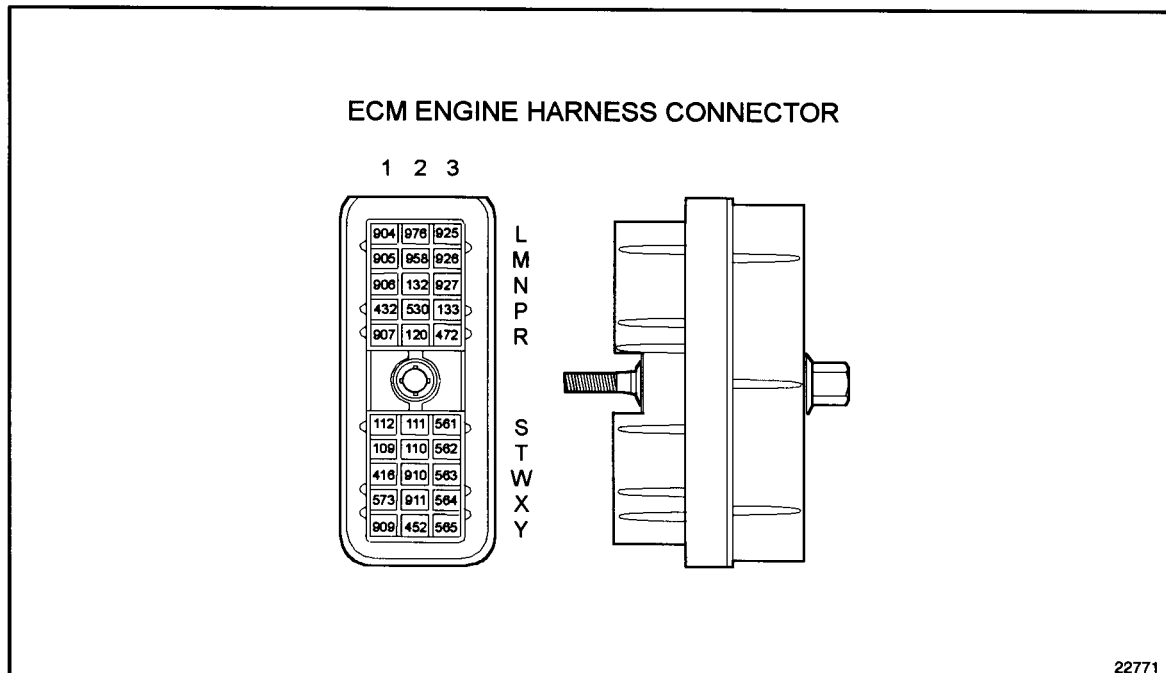

Figure 35-3 ECM Engine Harness Connector
3. Measure resistance between sockets P2 and W1 on the engine harness connector. See Figure 35-3.